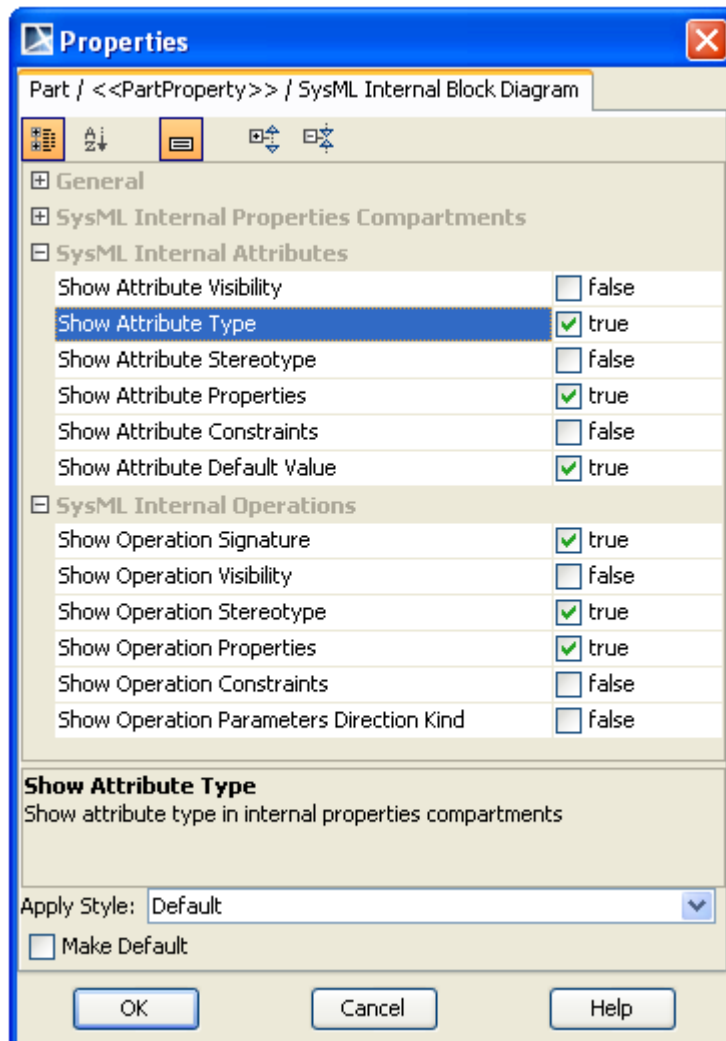

Figure 225 -- Symbol(s) Properties Dialog: SysML Internal Attributes and Operations
Elements displayed in the feature-based compartments of a property can be customized using the symbol properties listed under **SysML Internal Attributes** and **SysML Internal Operations** in the **Symbol(s) Properties** dialog of each property (Figure 225).
- Select or clear any of the check boxes as shown in Figure 225.